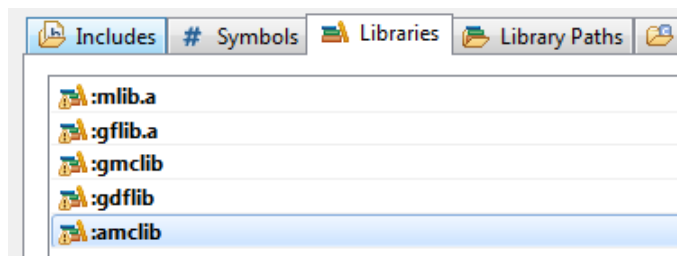

Figure 1-13. Libraries
15. After adding the library paths, add the library files. Click the Libraries tab. See Figure 1-13.
26. Click OK, and you will see the libraries added in the list. See Figure 1-13.